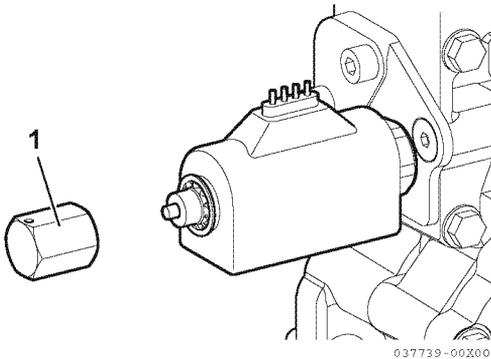

Figure 12
2. Thread the emergency nut (1, **Figure 12**) onto electric valve.